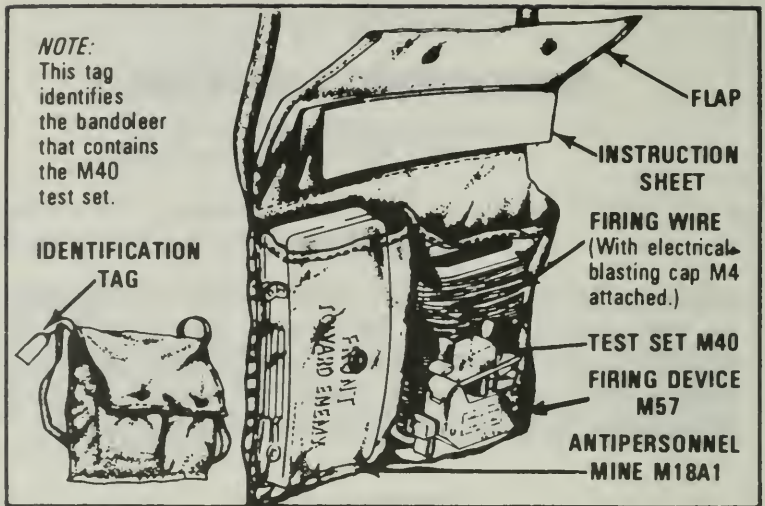

Figure 195. Components of the M18A1 Claymore mine.
1. Inventory the M18A1 Claymore mine. Account for all accessories in the bandoleer (Figure 195). Read the attached instruction sheet. Remove the electrical wire and the accessories, leaving the mine in the bandoleer.